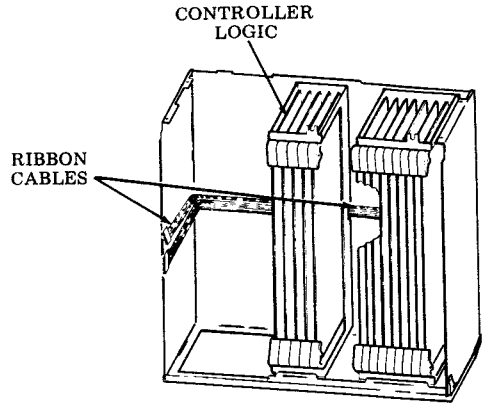

Fig. 52
- Step 11 — Route cables as shown (Fig. 52). Slots in controller must fit over ribbon cable from display logic.